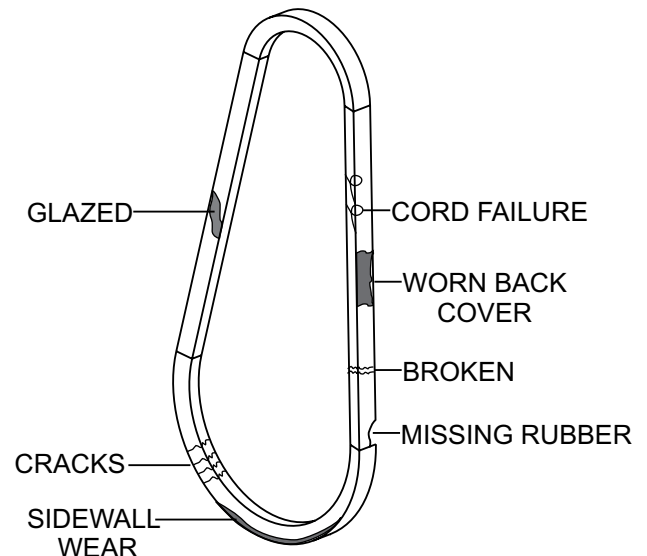

Figure 19. V-Belt Inspection
1. Inspect the V-belt (Figure 19) to determine if it is frayed, peeling, full of tiny cracks, has pieces of rubber missing, or is otherwise damaged.
2. Inspect the V-belt (Figure 19) to determine if it is oil-soaked or glazed (a hard, shiny appearance on the sides of the belt). Either of these conditions can cause overheating of the belt, which can weaken the belt and increase the possibility of it breaking.